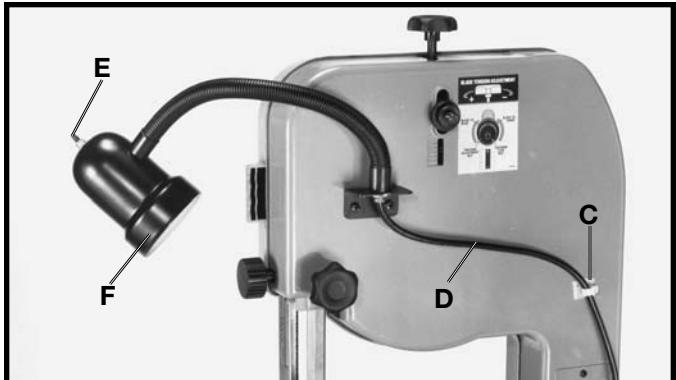

Fig. 13
2. Peel backing from cord clamp (C) Fig. 13, and stick cord clamp (C) onto rear of top cover in a position that will redirect lamp cord (D) out of the way of the band saw table. Then assemble cord (D) to cord clamp (C) as shown.
3. The flexible lamp operates independently of the band saw. To turn the lamp “ON” and “OFF”, rotate switch (E) Fig. 13.